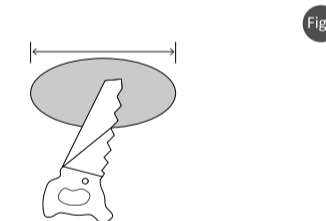

Fig1
**Step 1:** Turn off the power before installation. Remove the existing fixture if applicable. Determine the location and necessary hole cutout diameter using the supplied table and cut the ceiling hole with the listed approximate diameter, see Fig1.